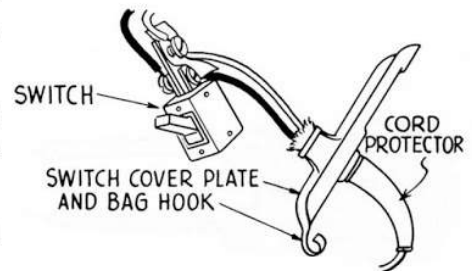

FIG. 24—Wiring diagram of single speed switch
1. The single speed switch and method of wiring are shown in Figure 24.